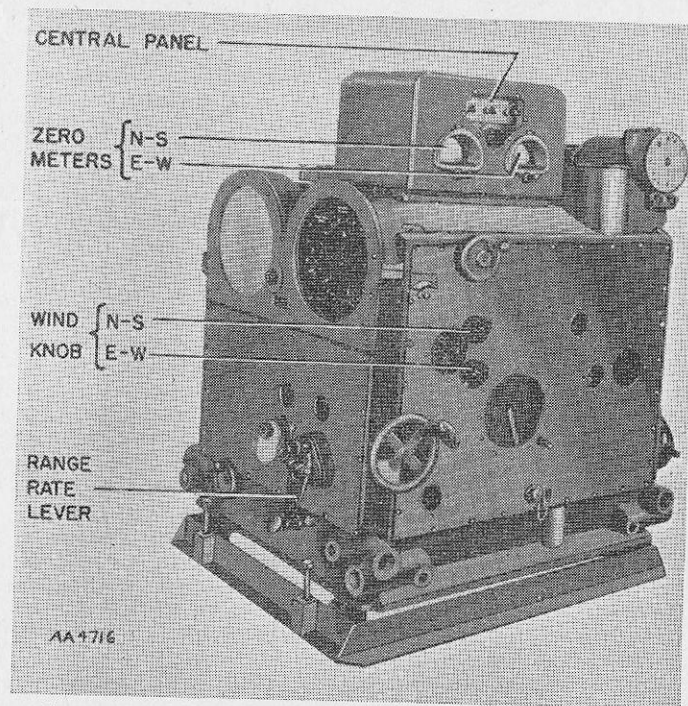
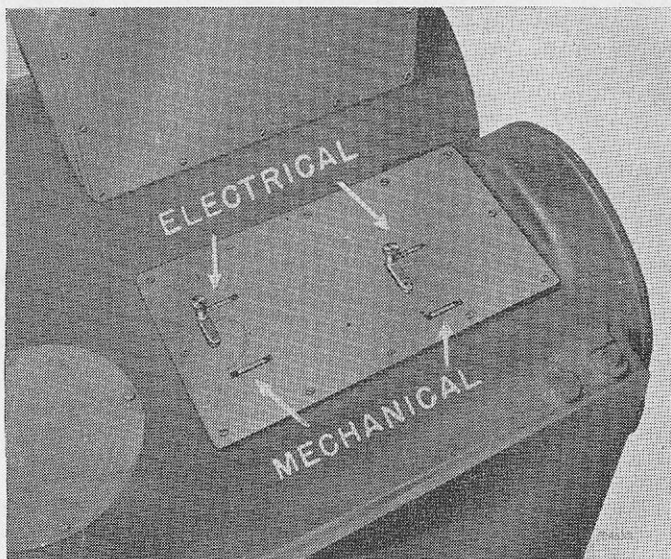

FIGURE 10.1.—Substitute standard director M4A1B2 or M7A1B2.
FIGURE 10.2.—Rate declutching levers on the M4A1B2 and the M7A1B2.
c. *M4A1B2 and M7A1B2*.—The M4A1B2 or the M7A1B2 differ in both appearance and operation from the standard directors. The top left cover plate has been removed and a metal housing or control box 14 inches long, 8 inches wide, and 7 inches high, bolted in its place. (See fig. 10.1.) On the director's right top cover plate have been installed two rate declutching devices or levers. Each of the rate declutching devices has two labeled positions, **MECHANICAL** and **ELECTRICAL**. (See fig. 10.2.) On the left side of the control box there are two direct current zero reading meters, a green pilot light, and three switch knobs.